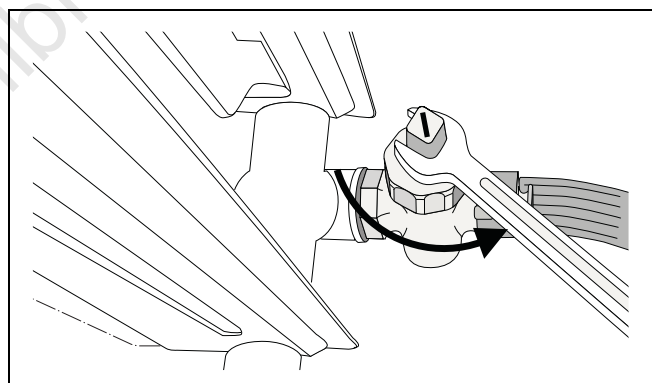

fig. 23 Draining the heating system
- Drain the heating water at the lowest point of the heating system, using the drain cock or the radiator (fig. 23). The (automatic) air vent at the highest point of the heating system/radiator (see fig. 14, page 13) must be open then.